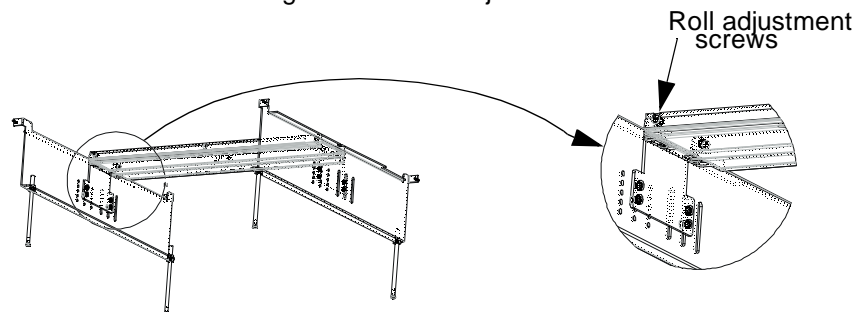

Figure 11. Roll Adjustment
3. **Roll.** See Fig. 11. There are four 10-32 x 1/2-in. pan-head screws in U-slots at the upper outside corners of the cradle assembly. Slightly loosen these screws, gently rock the cradle to the desired position, and retighten the screws.